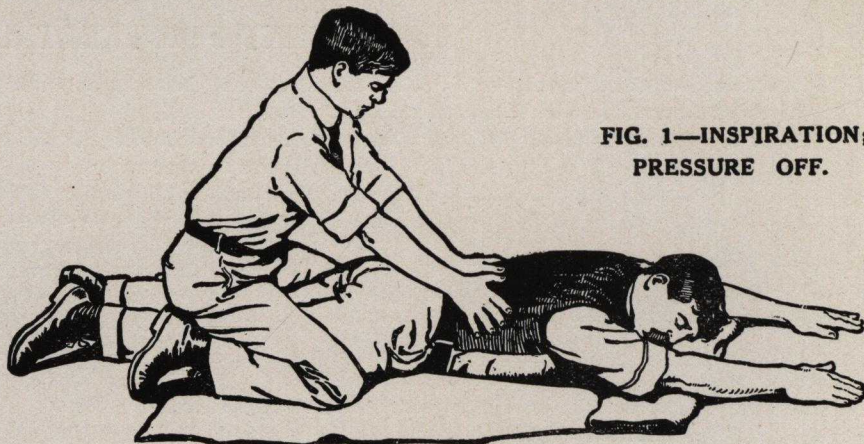

FIG. 1—INSPIRATION;
(2) Lay the subject on his belly, with arms extended as straight forward as possible, and with face to one side, so that the nose and mouth are free for breathing (see Figure 1). Let an assistant draw forward the subjects' tongue.
(3) Kneel straddling the subject's thighs and facing his head; put the palms of your hands on the loins (on the muscles of the small of the back), with thumbs nearly touching each other, and with fingers spread over the lowest ribs (see Figure 1).
(5) Now *immediately* swing backward so as to remove the pressure, but leave your hands in place, thus returning to the position shown in Figure 1. Through their elasticity, the chest walls expand and the lungs are thus supplied with fresh air.
(6) After two seconds swing forward again. Thus repeat deliberately twelve to fifteen times a minute the double movement of compression and release—a complete respiration in four or five seconds. If a watch or a clock is not visible, follow the natural rate of your own deep breathing—swinging forward with each expiration, and backward with each inspiration.